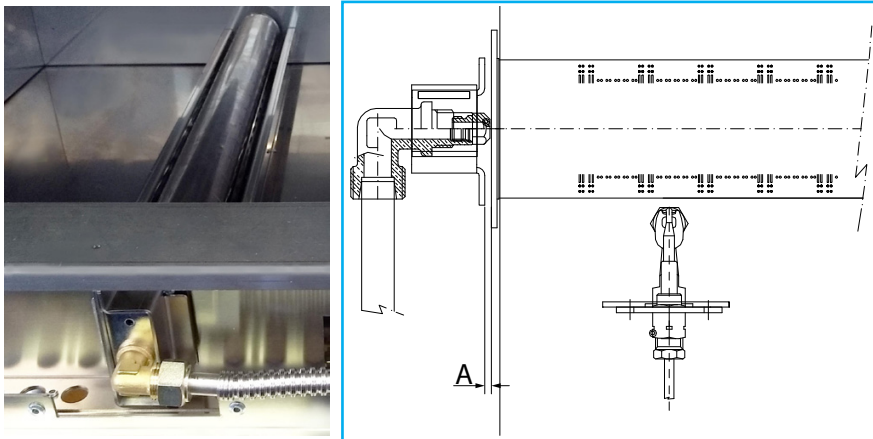

Fig.10.
6. Adjust gas injector to aeration (Fig.10 "A") to the specified distance (see page 9 / 2.1.3 )